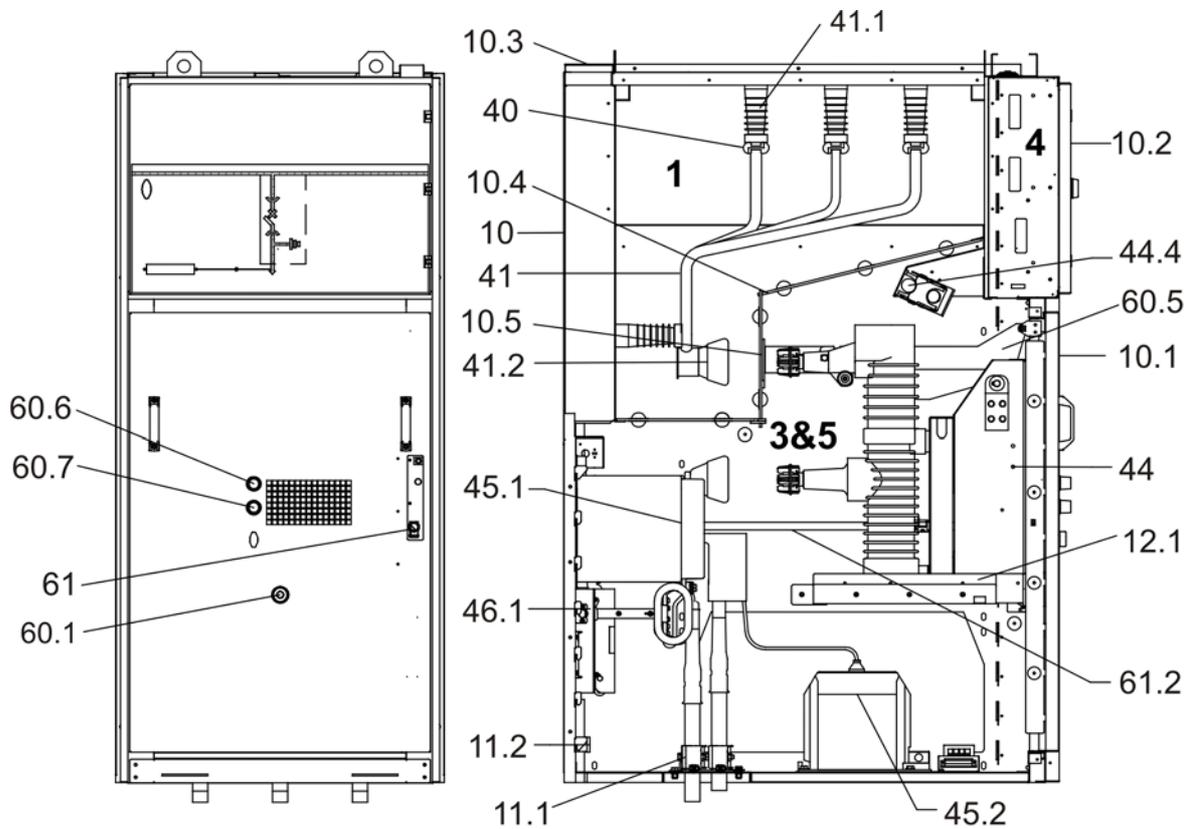

Figure 3.2
The cubicle is divided into the following compartments (for all compartments, see Figure 3.2):
1) Busbar compartment (1) (see Figure 3.2)
2) Circuit-breaker & cable compartment (3 & 5) (see also Figure 3.2 and Figure 3.9)
- Current transformers (45.1) (Figure 3.2), fixed and voltage transformers (45.2), and earthing switch (46.1), are fitted according to individual operating requirements in each case.